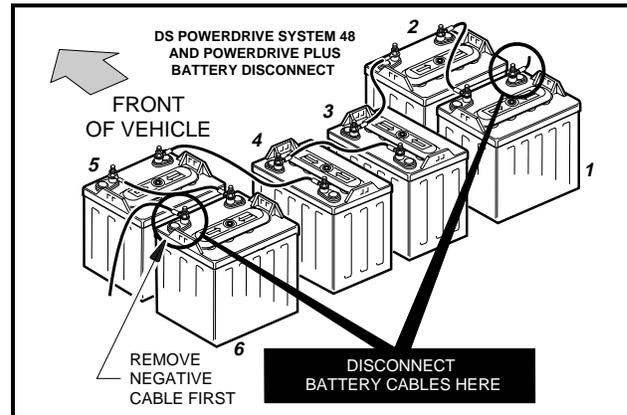

Figure 1-2 PowerDrive Vehicles
- TO AVOID UNINTENTIONALLY STARTING THE VEHICLE, DISCONNECT BATTERIES AS SHOWN (**FIGURES 1-2 OR 1-3**).